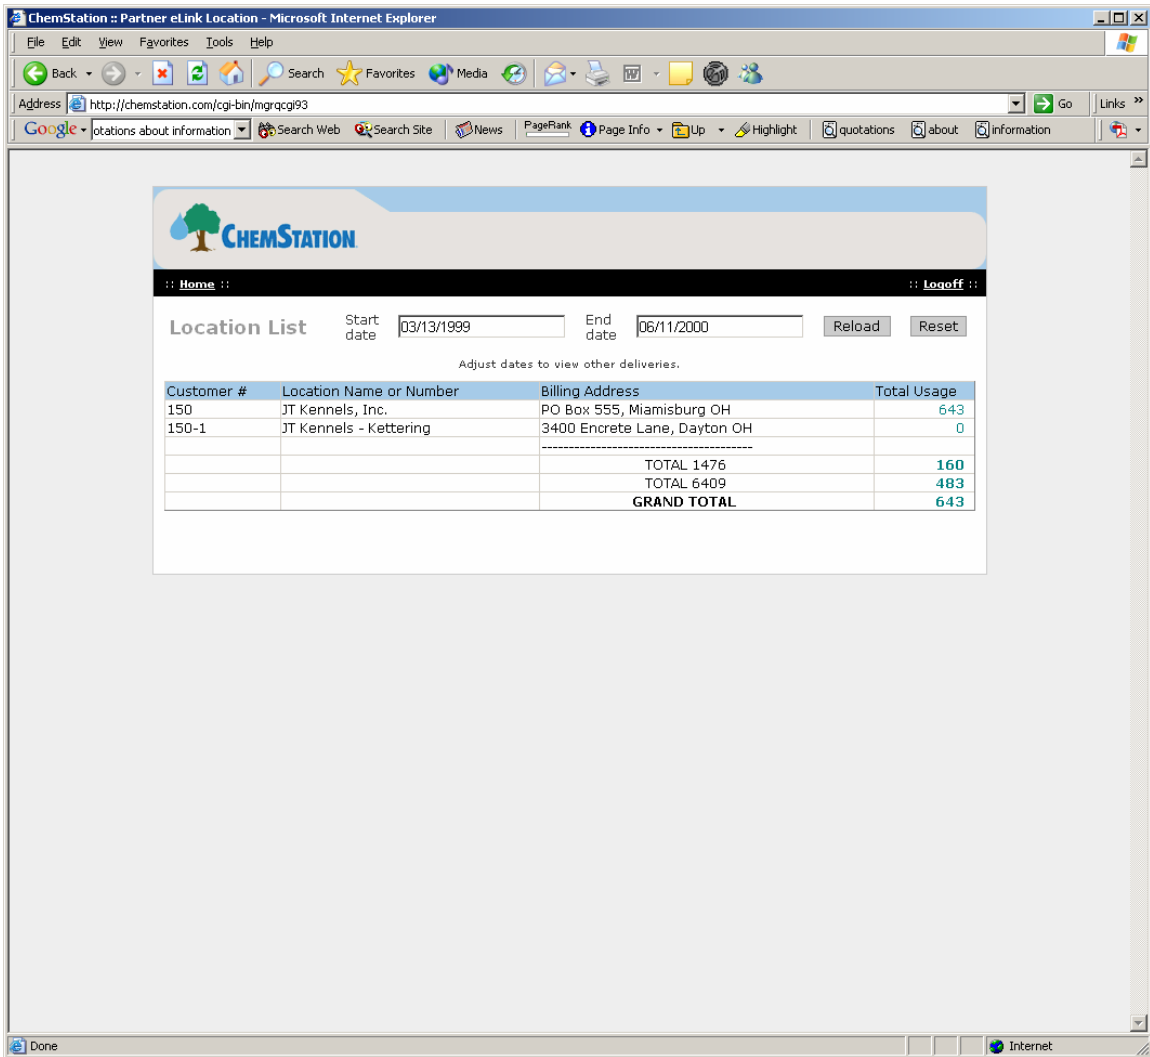
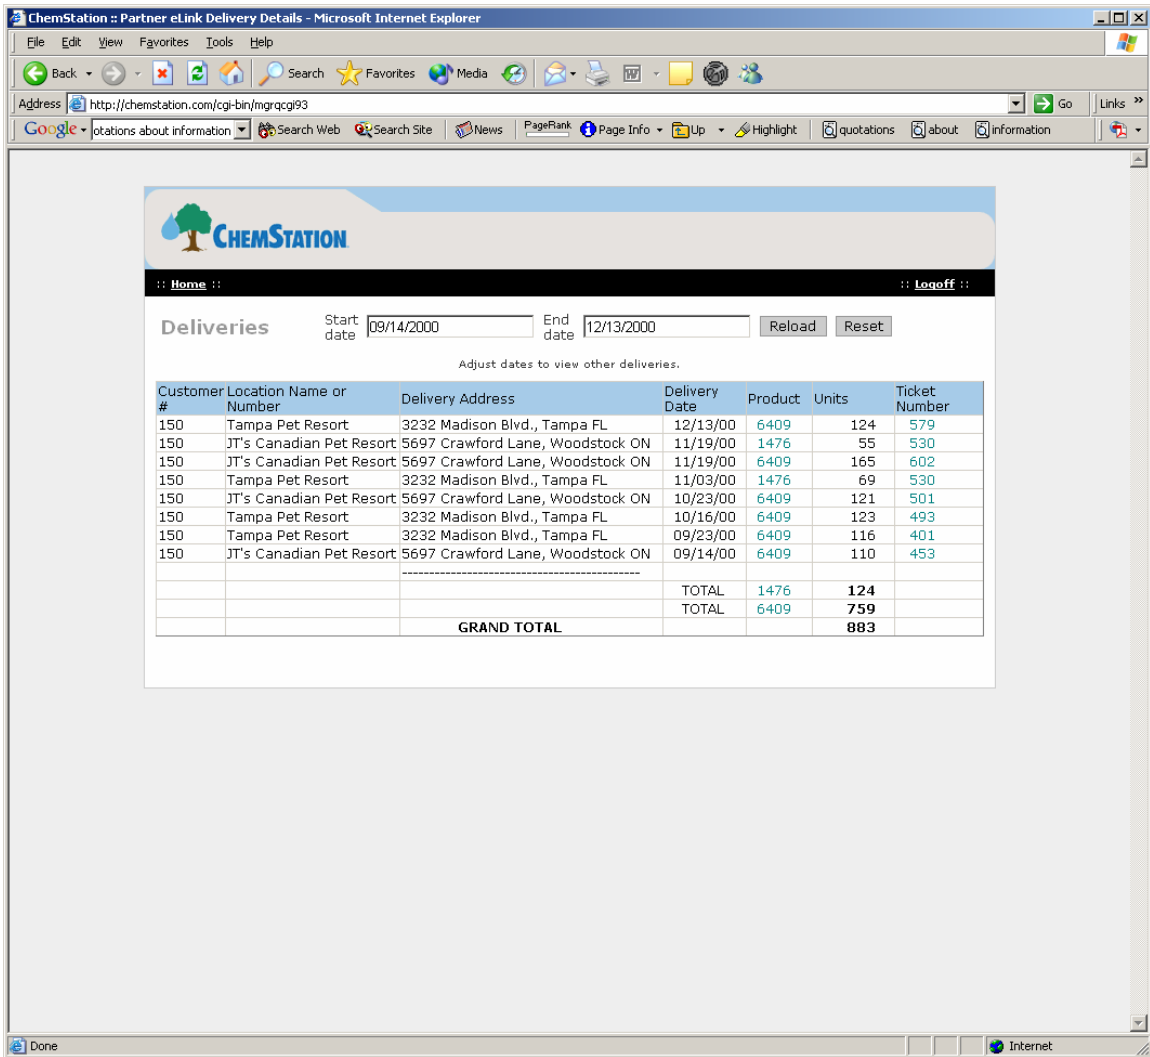

Figure 4 – Location Page
Figure 5 – Location History
- ◆ Data displayed is dependent upon the security level of the user logged in. If a corporate officer, regional manager logs in, the data displayed will be for all locations. If a location manager logs in, that user will only see data that is for that particular location. The picture above displays a user with corporate rights. This is evident by the hyperlink "Location List" above the tank. By clicking on the Location List hyperlink, the user would see a list of all store locations (see page 7, fig. 4). A user with location rights would see a hyperlink that reads "Deliveries". By clicking on the deliveries hyperlink, the user would see deliveries for that particular location (see page 8, fig. 5).